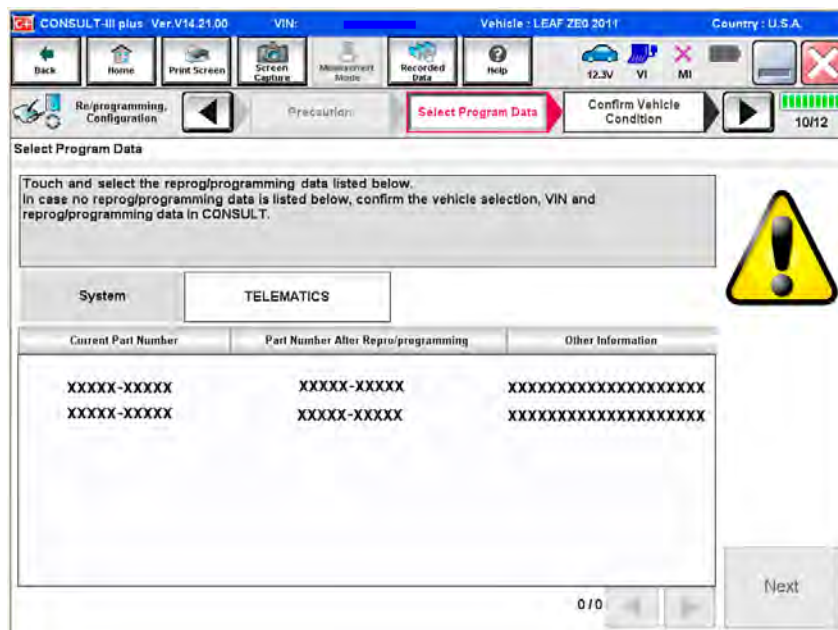

Figure 27
- In this case, the screen in Figure 27 will display.